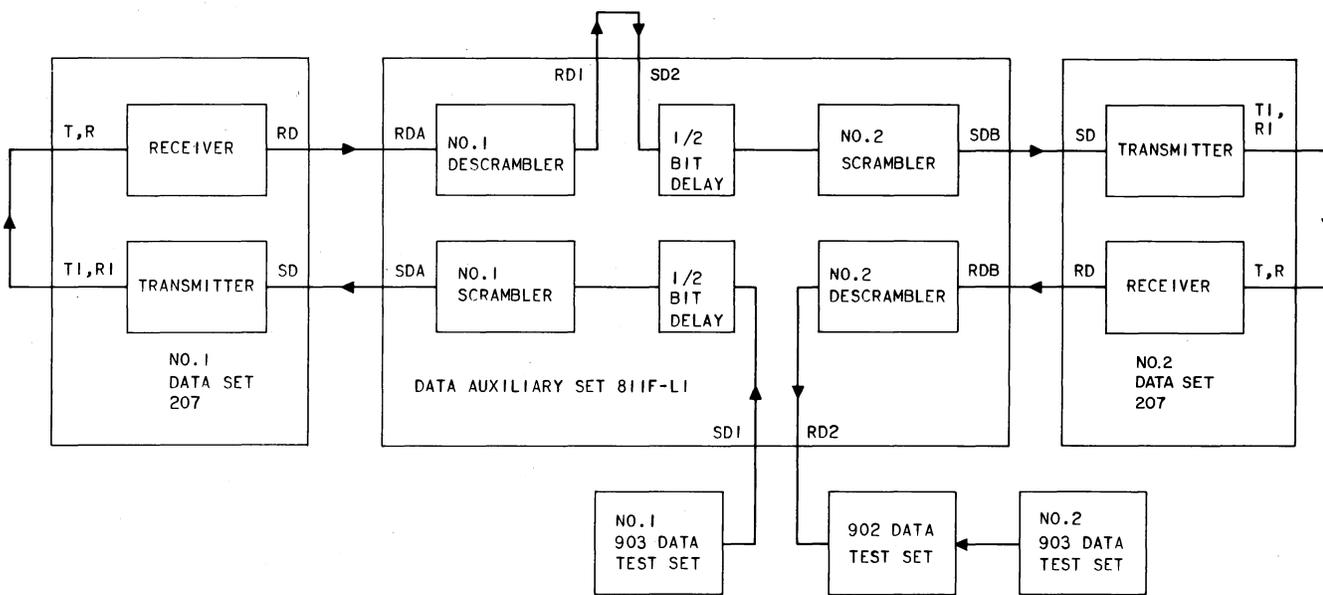

Fig. 4—Equipment Layout for Signal Path Test
**2.10** Refer to Fig. 4 for a block diagram of the test configuration. Perform the test as follows: